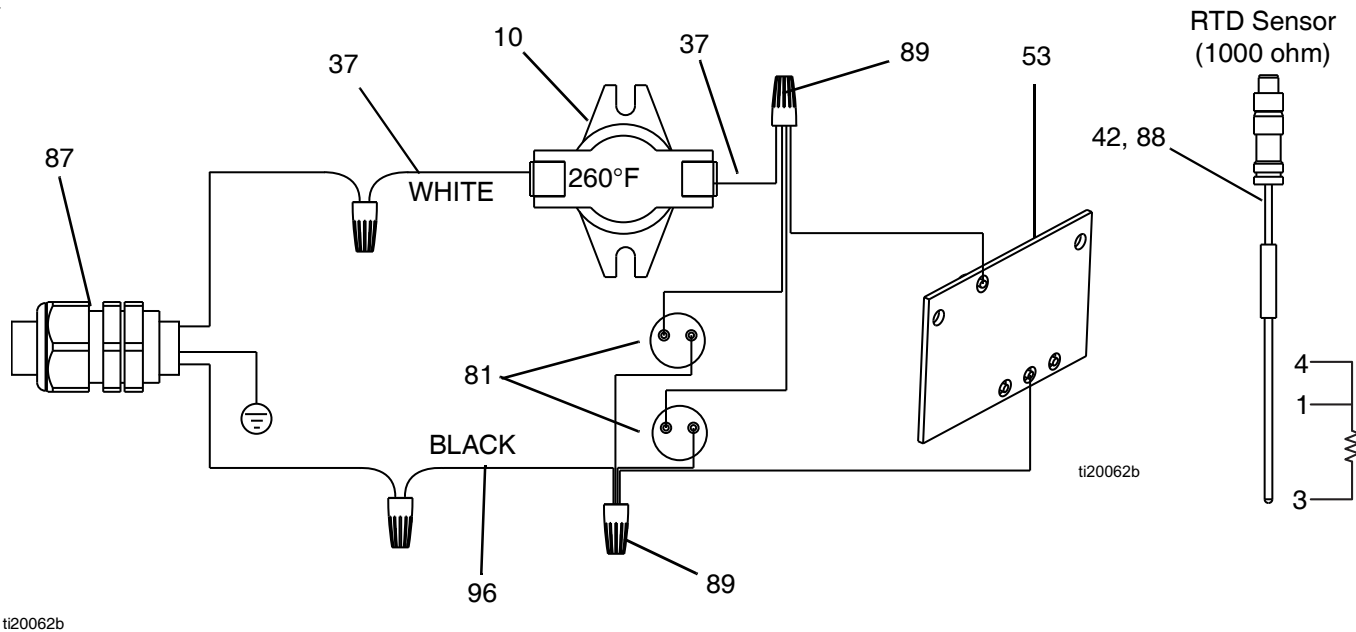
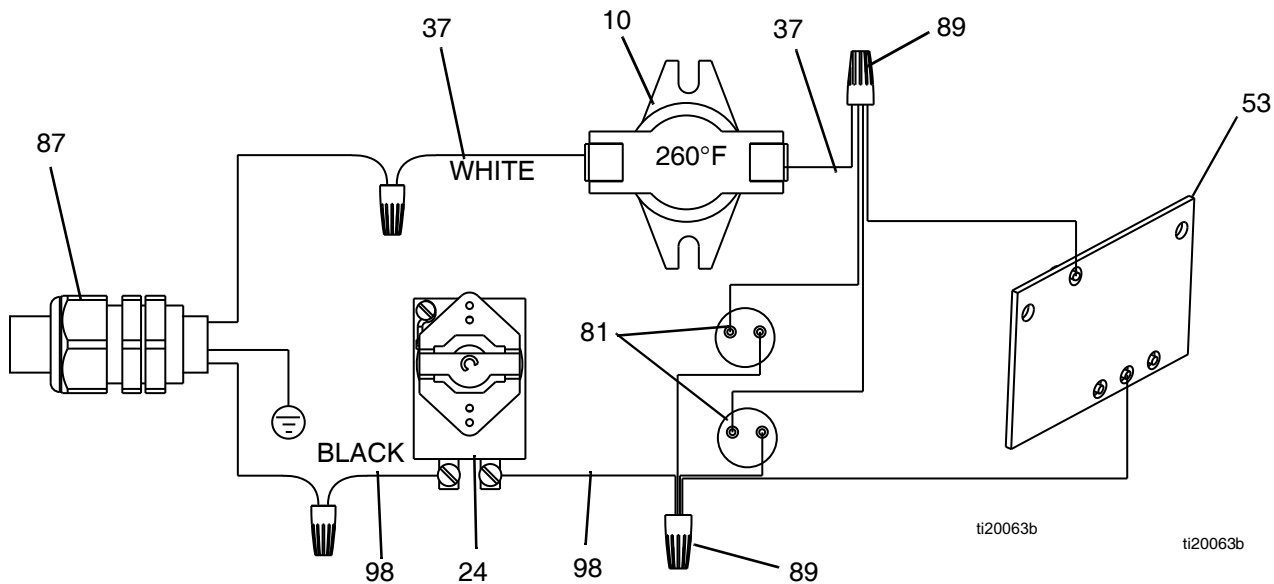

FIG. 10: Electrical Schematic - 262853, 24W612 Heater with RTD
FIG. 11: Electrical Schematic - 24P016, 24W248, 26C475, 26C476, 26C859, 26C860, 26C861 Heater with Thermostat
1. Connect the electrical supply ground wire to the ground screw inside the heater electrical compartment. See FIG. 11 page 19, FIG. 12, page 21.
- Refer to FIG. 11 or FIG. 10 for wiring connections.
- Make sure gasket (47) is installed and aligned with electrical housing screw holes.
- Secure cover (18) with screws (52). Torque screws to 89 in-lb (10 N•m).